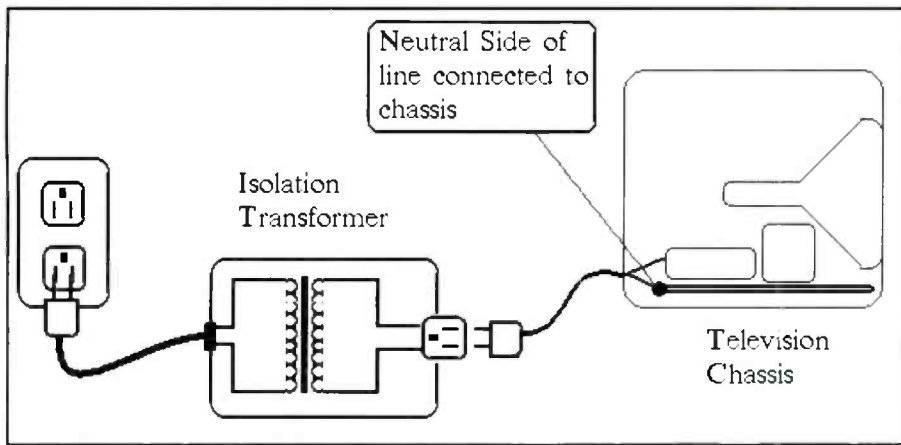

Figure 2. Always use an isolation transformer when servicing any type of electronics equipment.
- Always use a one-to-one ratio isolation transformer when servicing any electronic equipment (Figure 2). This removes the possibility of a shock hazard from the chassis, but it also removes the current path from any of the power supplies or higher voltage signals to ground.